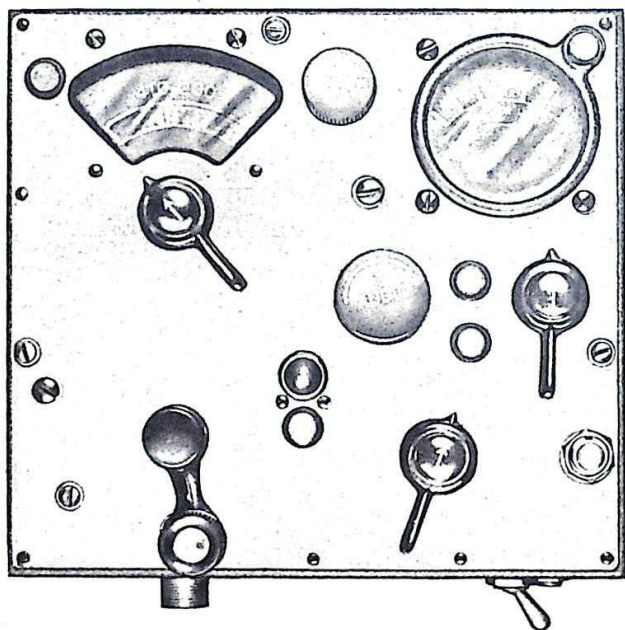

Figure 3-1. Radio Control Box ★C-4/ARN-7—Front View
(1) To start the equipment turn the function switch on remote control box to "COMP", to "ANT" or to "LOOP". (See figure 3-1.)
(2) In dual control installations push "CONTROL" switch to operate the green light. This shows that the remote control box is in control.